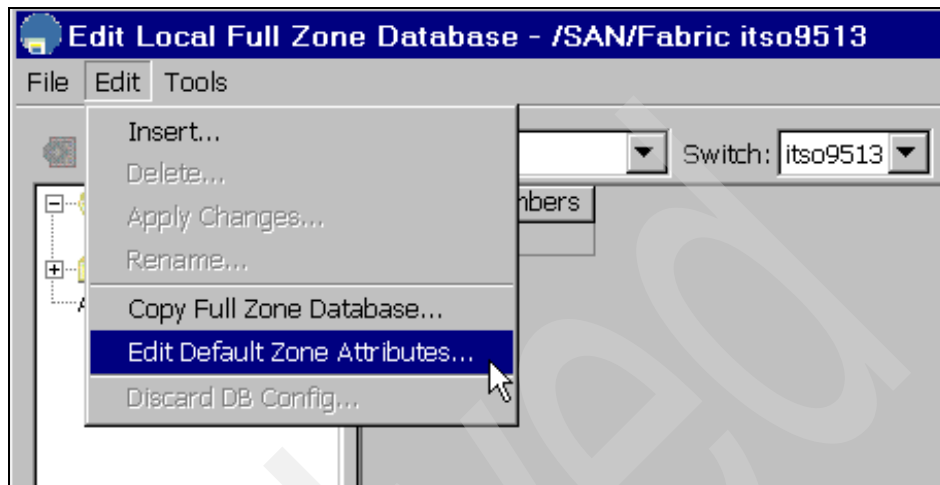

Figure 50 Edit Default Zone Attributes
2. In Edit Local Full Zone Database Edit, select **Edit** → **Edit Default Zone Attributes** (Figure 50).